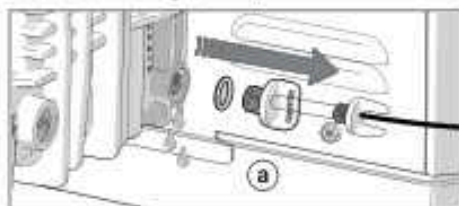

Figure 17. Remove Drain Plug/Temp Sensor
- Remove drain plug/outlet temperature sensor from header and allow all water to drain from heat exchanger, see Figure 17.